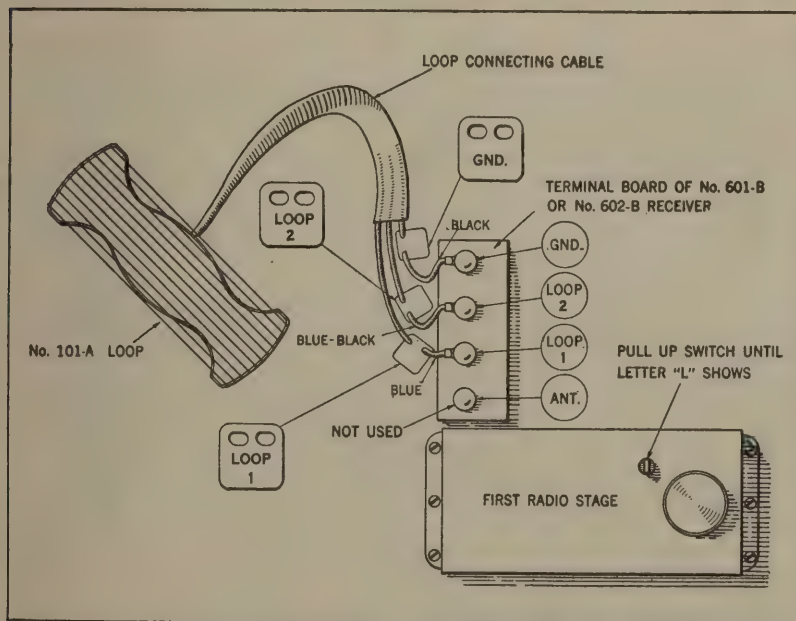

Fig. 48—Wiring of Loop Cable to Receiver Chassis Binding Posts
binding posts as shown in Fig. 48. The wires are plainly labeled and are color-coded as follows:
- 2—Be sure to connect the loop conductors to the receiver binding posts as indicated in Figs. 48 or 51.